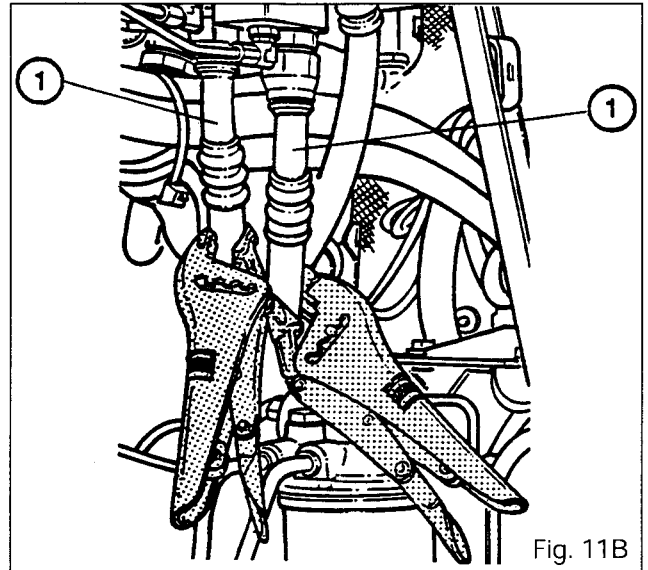

Fig. 11B
- Fig. 11B: as from serial number D086001 (Std) and D115017 (dipping hood)